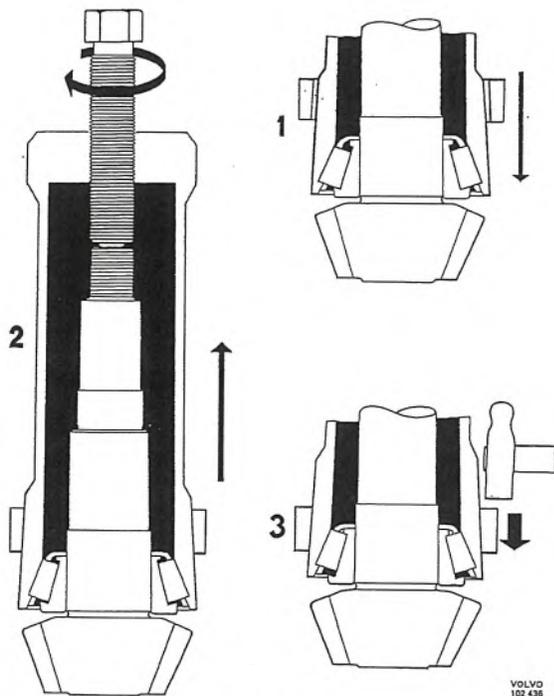
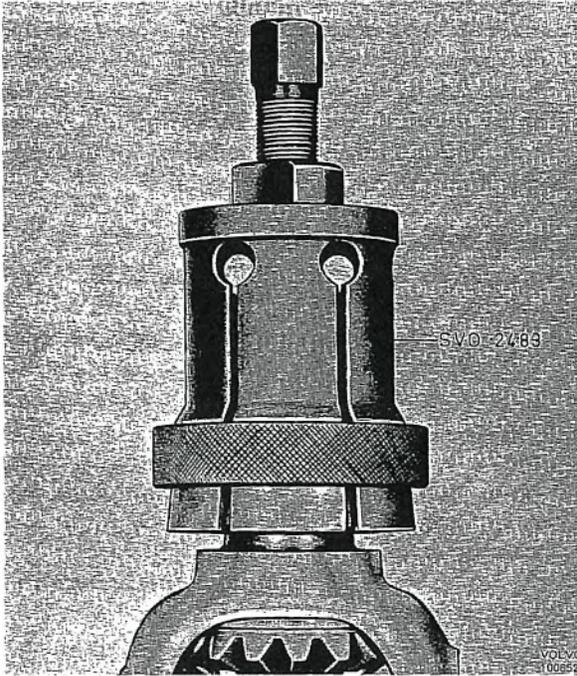

Fig. 4-139. Installing puller
Fig. 4-141. Removing differential carrier bearings
puller is fitted in the following way: Move the puller down over the rollers and press down the lock ring. Then pull up the puller with the bolt until the rollers lie flush with the edge of the inner race and the edge on the puller. Knock out the lock ring with a hammer. See also Fig. 4-139.
3. Pull off the differential carrier bearings with puller 2483, see Fig. 4-141. Do not loosen the shims. Concerning the fitting of the puller, see also Fig. 4-139.